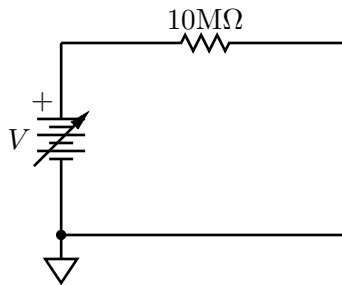
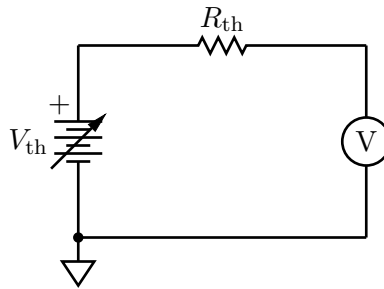

Figure 6.2. A circuit that should reveal the effect of large but finite input impedance.
Figure 6.6. Measuring the supply voltage V_{th} ; the measured $V = V_{th}$, provided the input impedance of the meter is much larger than R_{th} .
Even though this is large compared to most of the resistances that one typically uses, one should always keep this value in mind when one is performing a measurement. For instance, consider the following circuit (Fig. 6.2):
- 💡 Build the circuit of Fig. 6.2. Measure the voltage between the free end of the resistor and ground using your voltmeter, and compare it to the voltage across the power supply terminals. What do you observe? Can you account for any discrepancy?
the free end of the $10\text{M}\Omega$ resistor and ground, using the circuit of Fig. 6.2. What is the input impedance of the 100Ω resistor? (This is as easy as it looks.) What battery voltage would be required to generate 100mA through the 100Ω resistor?
❓ What is the output impedance of the power supply attached to the series 10 Mohm resistor (Fig. 6.2)?
Experimentally, one can measure the output impedance in the following way (provided the output impedance is much smaller than the voltmeter input impedance — this technique will not work for the circuit in Fig. 6.2!). First, measure the output voltage, V_{th} , as shown in Fig. 6.6 (the subscript “th” is conventional: see below). Then connect a resistor R in